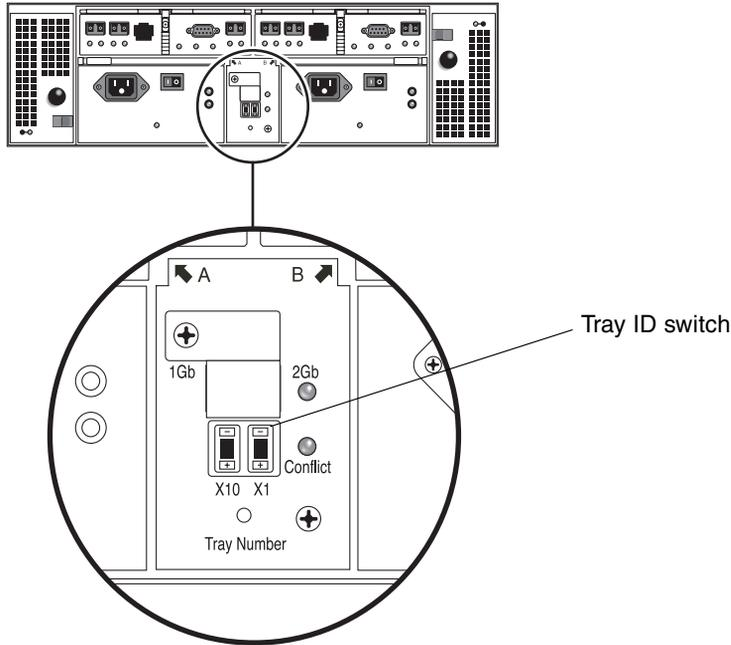

FIGURE 2-19 Tray ID Switch
1. Locate the Tray ID switch at the back of the controller module, between the two power supplies (FIGURE 2-19).